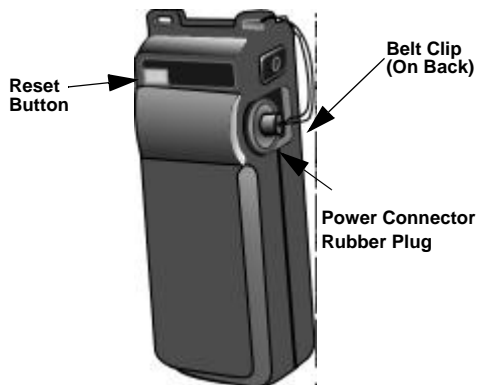
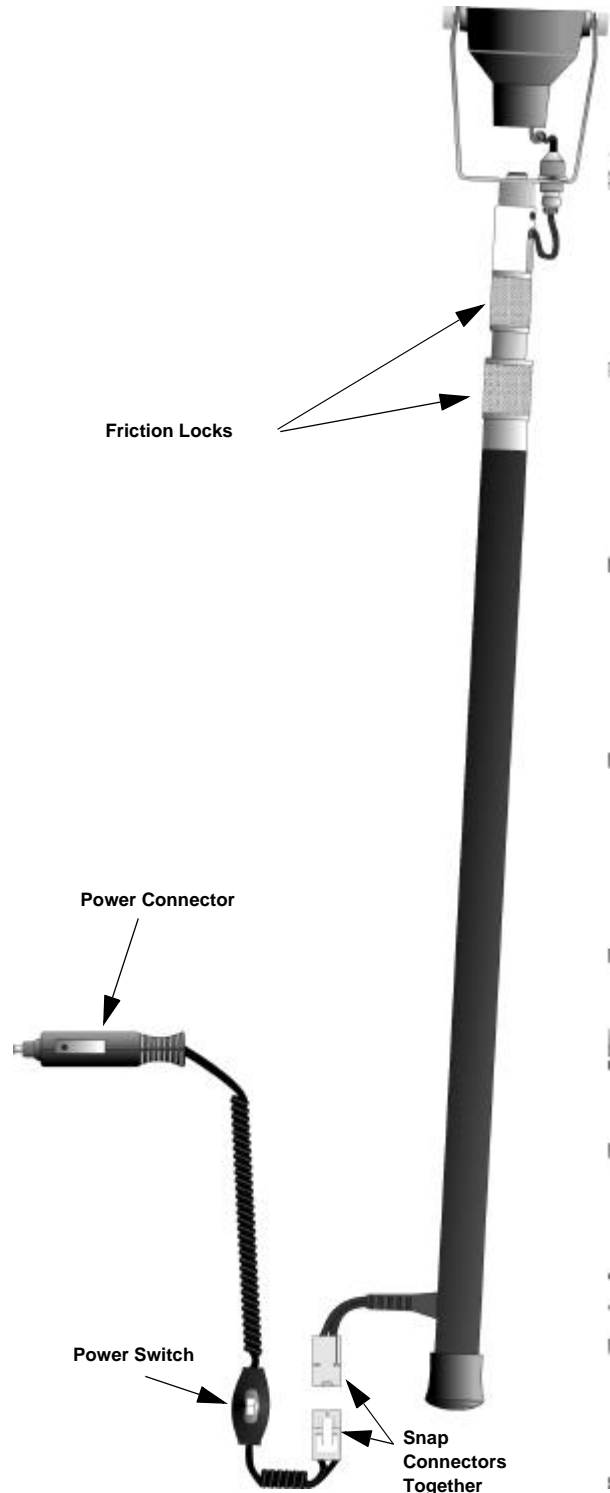

Figure 9: HDT-380 Battery Pack
Figure 10: HDT-380 Components
1. Connect the power connector from the HDT-380 into the battery pack. See Figure 9 and Figure 10.
2. Extend the adjustable aluminum pole of the HDT-380 up to the heat sensor. See Figure 10.
5. Turn the HDT-380 power switch on. See Figure 10.